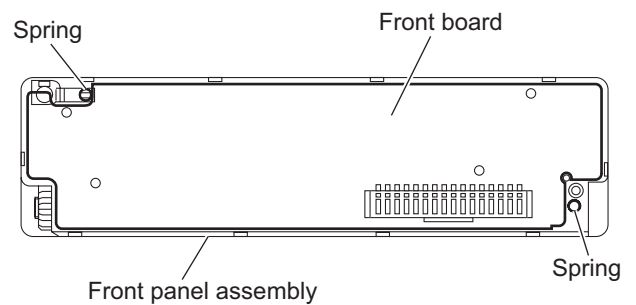

Fig.11
- (3) Release the joint **g** and take out the front board. (See Fig.11.)